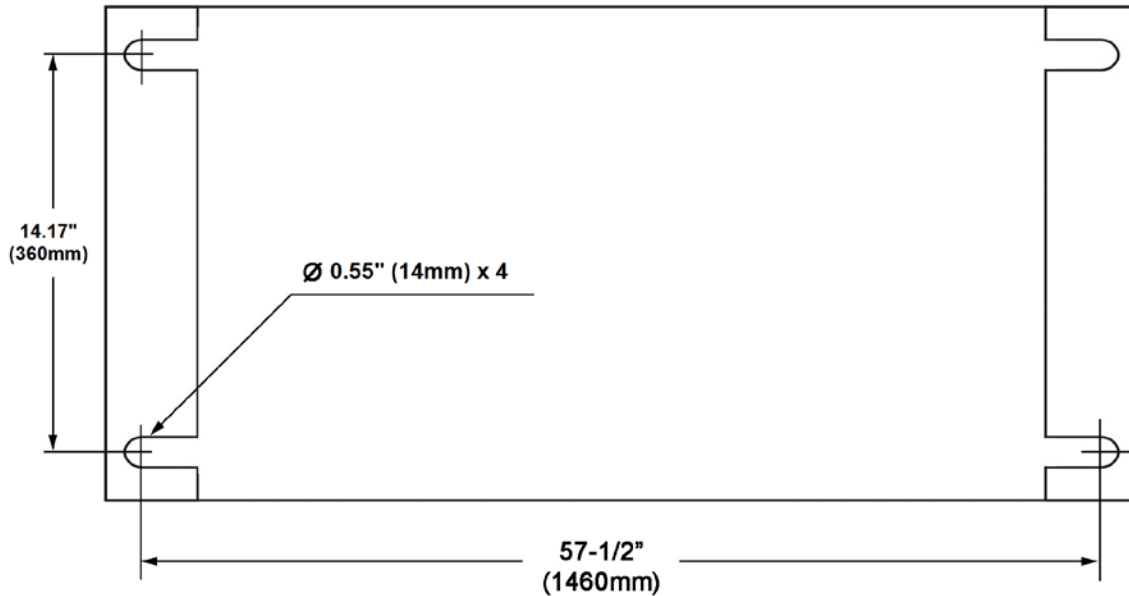

Figure 2
6. When the machine sits evenly, secure it to the floor using proper fasteners. Refer to Figure 2.